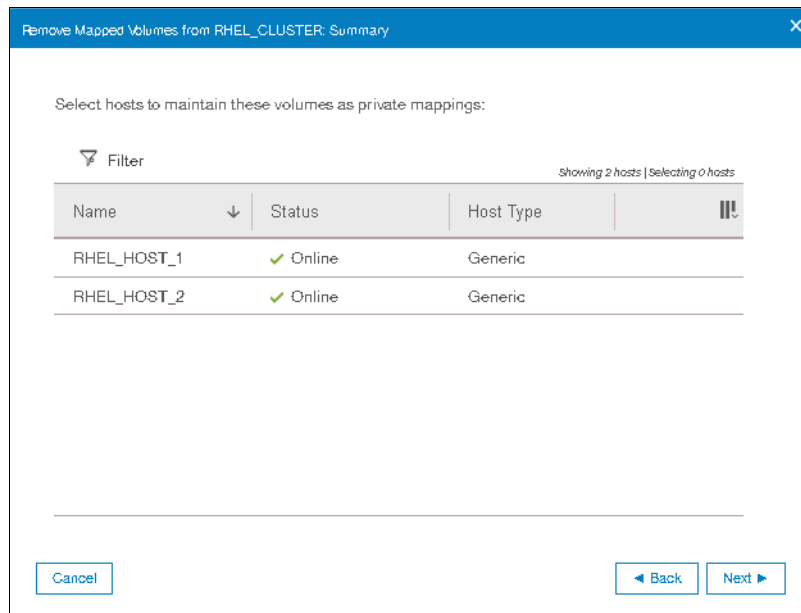

Figure 5-98 Host cluster member list
5. Click **Remove Volume Mappings**. A summary window listing the hosts will be shown as in Figure 5-98.